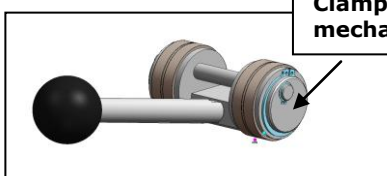

Fig. 17.1 Clamping mechanism
- To ensure that the grinding jar can be clamped and released safely, it is essential that the clamping mechanism can move easily. It must be checked and cleaned every day and lubricated when necessary. (Fig. 17.1 Locking bolt)